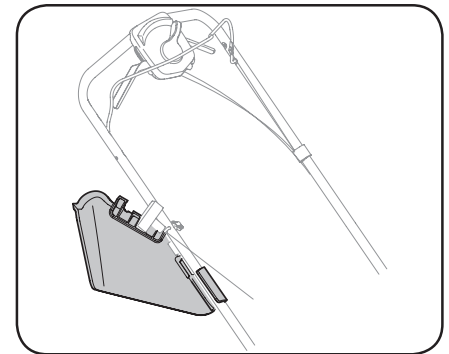

Figure 2-11
- When not using, you may secure side discharge chute to handle as shown in Figure 2-11.